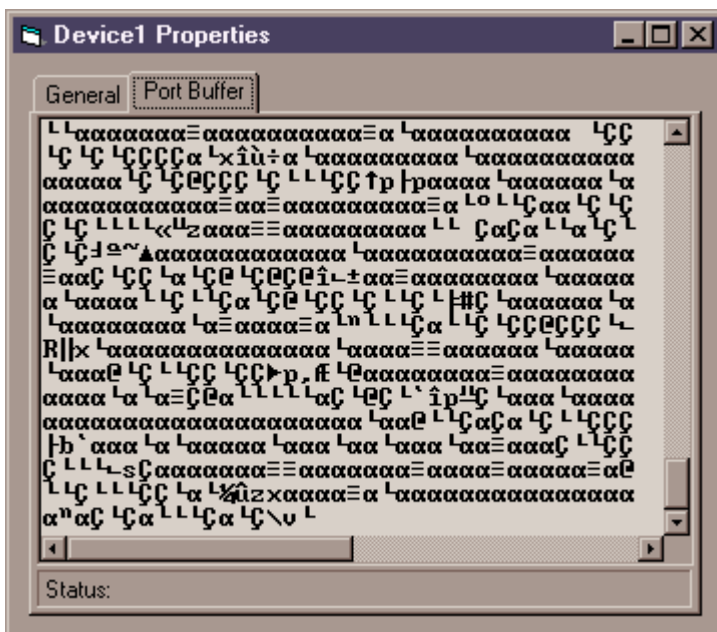

Figure 20
- Once you’ve selected the “port buffer” tab you will see this screen.[fig.20]